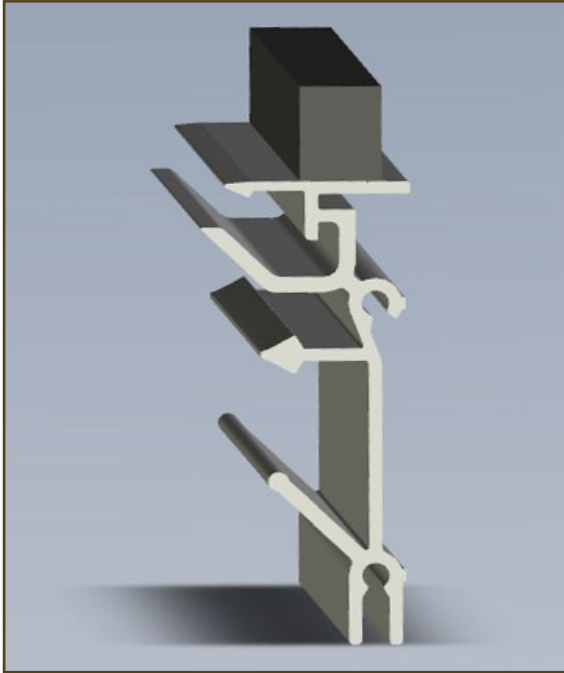

Figure 9. Solid Wall enhancement
5. Apply one (1) layer of $\frac{5}{8}$ " thick x $\frac{1}{2}$ " wide (16mm x 13mm) CSF tape continuously to top of Solid Wall Horizontal Extrusion on either side of Ceiling Track gap. CSF tape should be positioned on top Flanges so top Horizontal is capable of engaging Ceiling Track as well as to allow for Ceiling Trim engagement. See Figure 9 below.